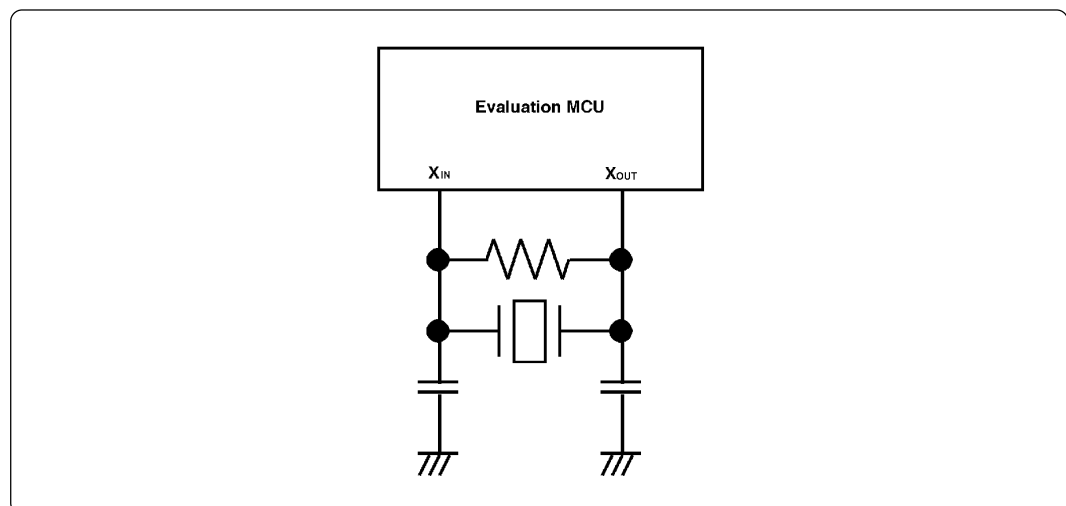

Figure 3.6 Circuit in which oscillation does not occur (same for  $X_{CIN}$  and  $X_{COUT}$ )
In the oscillator circuit shown in Figure 3.6 where a resonator is connected between pins  $X_{IN}$  and  $X_{OUT}$ , oscillation does not occur because a converter board is used between the evaluation MCU and the target system.
- Make note of the fact that in the oscillator circuit shown in Figure 3.6 where a resonator is connected between pins  $X_{IN}$  and  $X_{OUT}$ , oscillation does not occur because a converter board and other devices are used between the evaluation MCU and the target system. It is same for sub-clock oscillator circuits ( $X_{CIN}$  and  $X_{COUT}$ ).